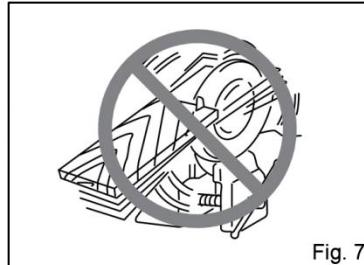

Fig. 7
26. Never attempt to saw with the circular saw held upside down in a vise. This is extremely dangerous and can lead to serious accidents. (**Fig. 7**)